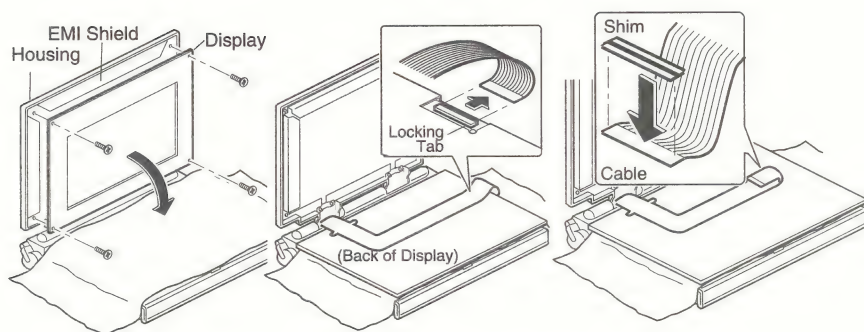

Figure 4 PowerBook 165 Shim Installation
2. Cover the keyboard with a clean cloth or sheet of paper (Figure 4).
4. Remove the display from the housing and EMI shield (Figure 4).
6. Lift the locking tab on the display connector and disconnect the display cable (Figure 4).
8. Turn back the end of the display cable and press the shim onto the back (the nonconductive side) of the display cable connector (Figure 4).